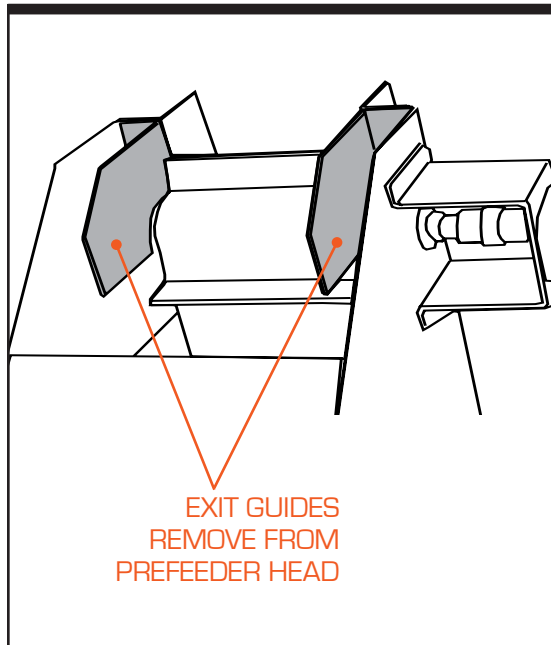
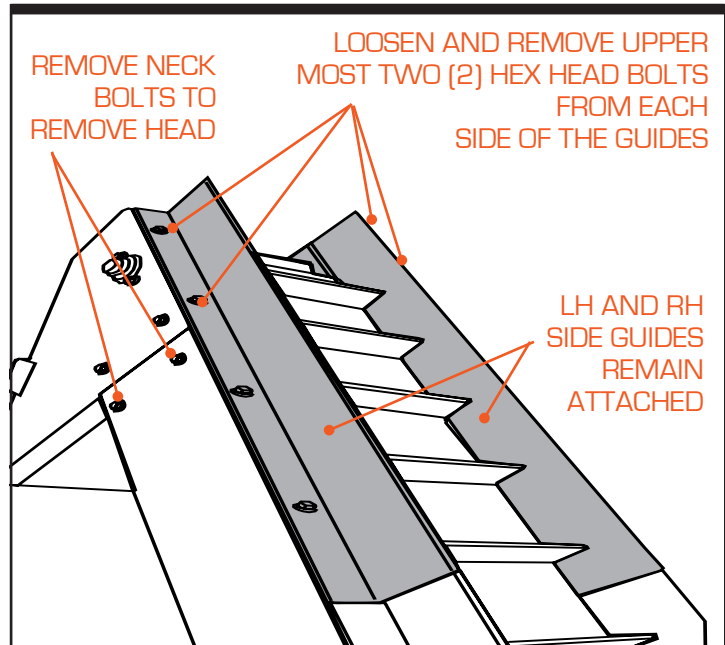

Figure 3-7. Left Hand and Right Hand Exit Guides
Figure 3-8. Side Guides - Remove Hardware
**Step 4—Remove Prefeeder Head.** Remove the side guide bolts on the prefeeder head. This frees the two exit guides (left hand and right hand) which help guide the belt. Set these exit guides (see Figure 3-7) to the side. Remove any hardware on the side guides from the head portion of the prefeeder, and set aside. You will not be removing the side guides on the channel, just disconnecting them. Then remove the two bolts on both sides of the prefeeder channel or neck (see Figure 3-8) and set aside.